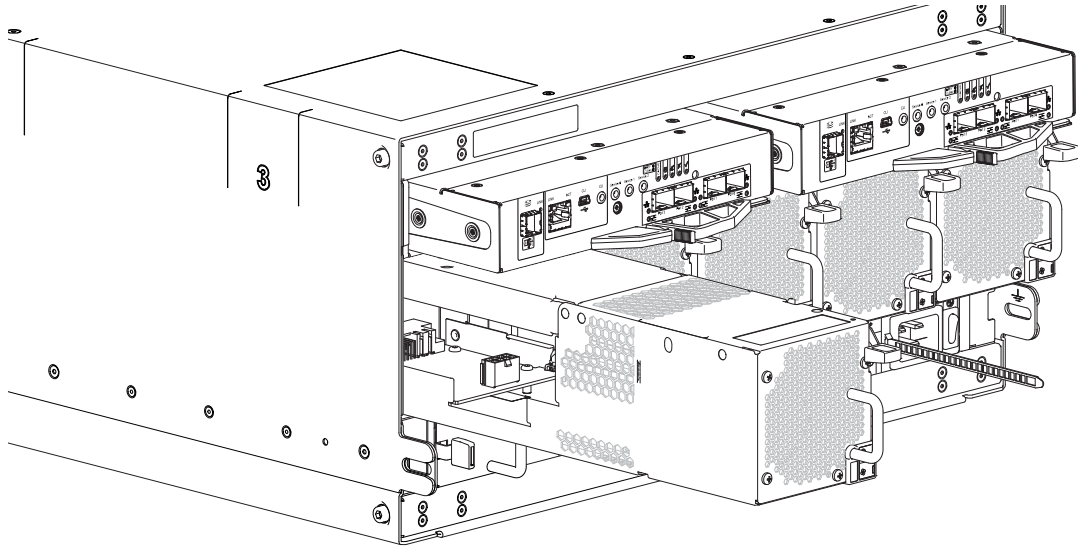

Figure 110 Removing an FCM (2 of 2)
- b. With your other hand, grasp the handle and pull the FCM outward (detail No.2). Supporting the FCM with both hands, remove it from the enclosure. See also Figure 110 \(page 137\).
2. Orient the FCM for insertion into the target slot on the enclosure rear panel, as shown in Figure 110.